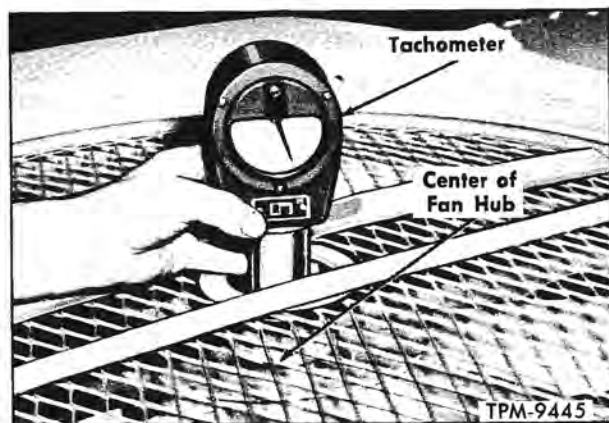

Figure 133—Checking Condenser Fan Speed
1. Using a tachometer (fig. 133) check speed